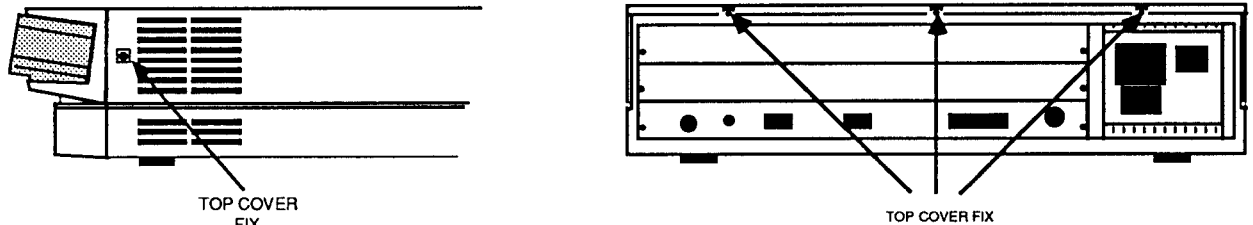

FIG. 1 REMOVING TOP COVER
3. Remove the top cover as follows (see fig. 1):